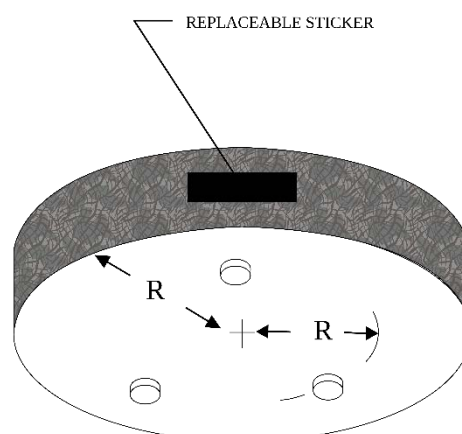

FIGURE 6. Support layout for round surface plate.
3.2.5.2 Round plates. They shall be located at three equally spaced positions on a circle with a radius of approximately 0.7 radius of the plate measured from the center of the base surface (see figure 6).